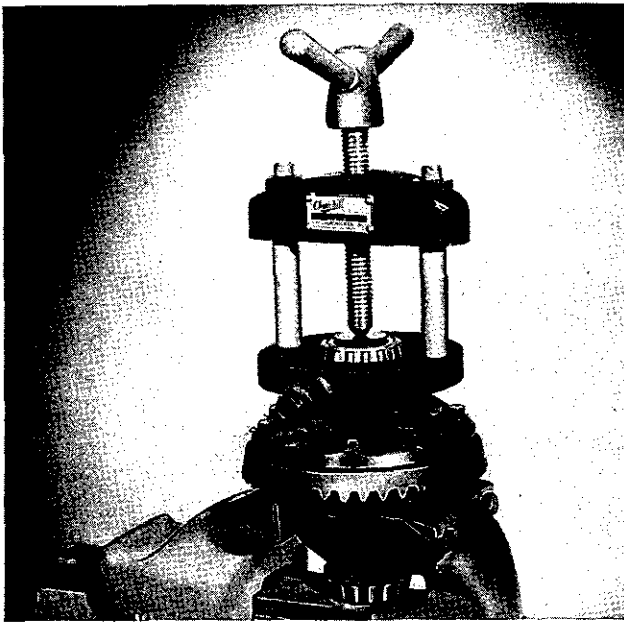

Fig. 9. Extracting Differential Bearing Inner Cone—Tool No. 20S.85 with special extractor finger.
11. Extract the differential bearing inner races as shown in Fig. 9. (The extractor shown is specially manufactured for this purpose by Messrs. V. L. Churchill and Co. Ltd. and is the same as that used for "Vanguard" Models with longer fingers). The outer races should be paired with their respective inner portions and laid aside for reassembly or replacement if necessitated by damage or wear. The shims removed with each race should also be laid aside with the respective races as a guide when estimating the shims for reassembly. The differential may be dismantled if necessary, as directed later in this section.
18. Having decided the thickness of shims required behind each differential bearing these bearings are extracted with the special tool shown in Fig. 9. The respective shim packs are measured with a micrometer gauge after ensuring that the shims are clean and undamaged and allocated to their respective sides of the differential casing.